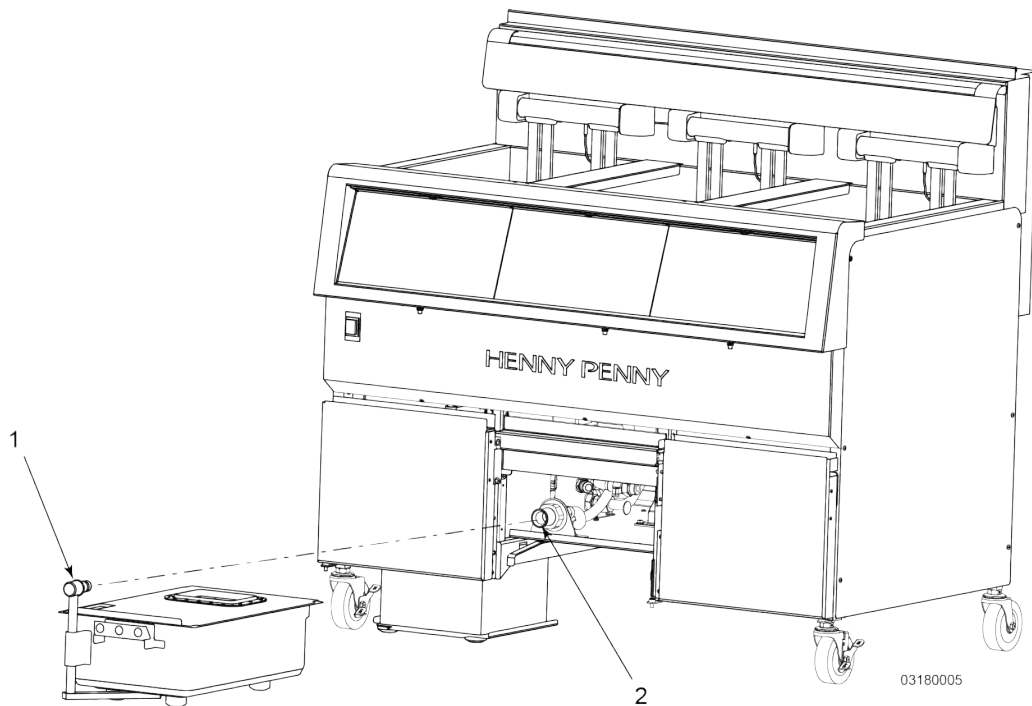

Figure 4-17 Drain Pan Remove/Install
- 2) Remove the filter pan by pulling it out from under the fryer. This separates the male (1) and female (2) sections of the filter pan connection, see Figure 4-17 Drain Pan Remove/Install, page 34.